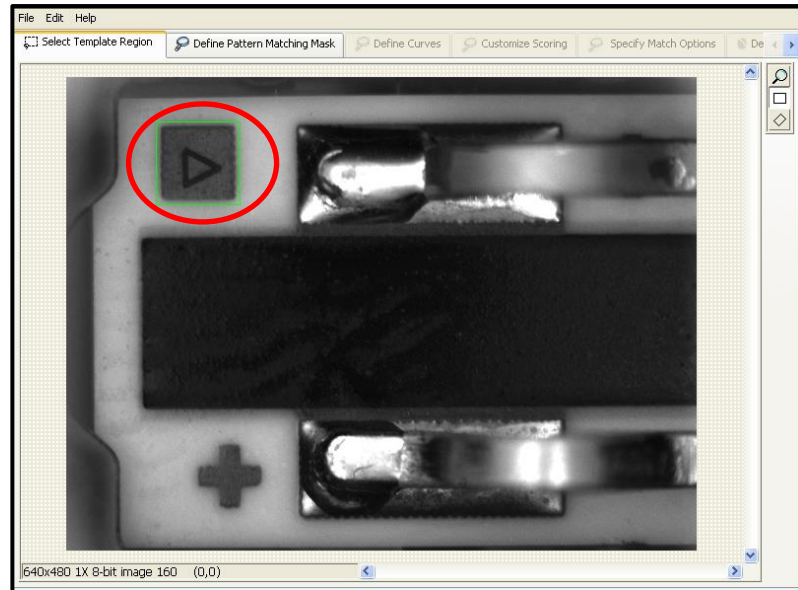

Figure 45. Draw a template region.
5. Define a template region on the image [Figure 45].